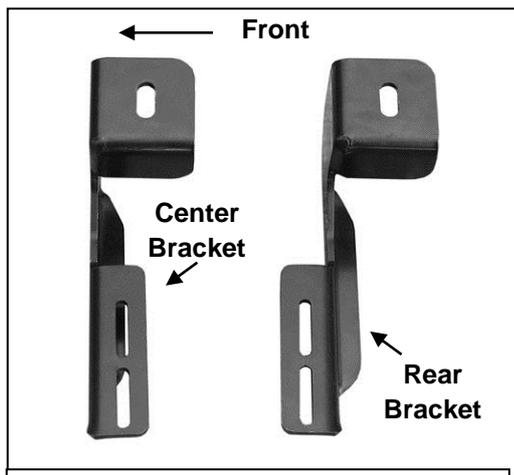

Fig 10A
7. Move toward the center of the vehicle. Locate the factory hole in the bottom of the outer frame channel, **(Fig. 9)**. **NOTE:** Hole may be covered with sealant as described in **Step 3**. Select (1) 10mm Rod Bolt and (1) 10mm Plastic Retainer, **(Fig. 10A)**. Insert Rod Bolt into factory hole and tighten Retainer, **(Fig. 10B)**. Select the driver side Center Bracket, **(Fig. 11A)**. **IMPORTANT: the Center and Rear Brackets are similar, use Figure 11A to properly identify the Center and Rear Brackets.** Secure the Center Bracket to the Rod Bolt with (1) 10mm x 27mm STD Flat Washer and (1) 10mm Flange Nut, **(Fig. 11B)**. Snug but do not fully tighten hardware at this time.